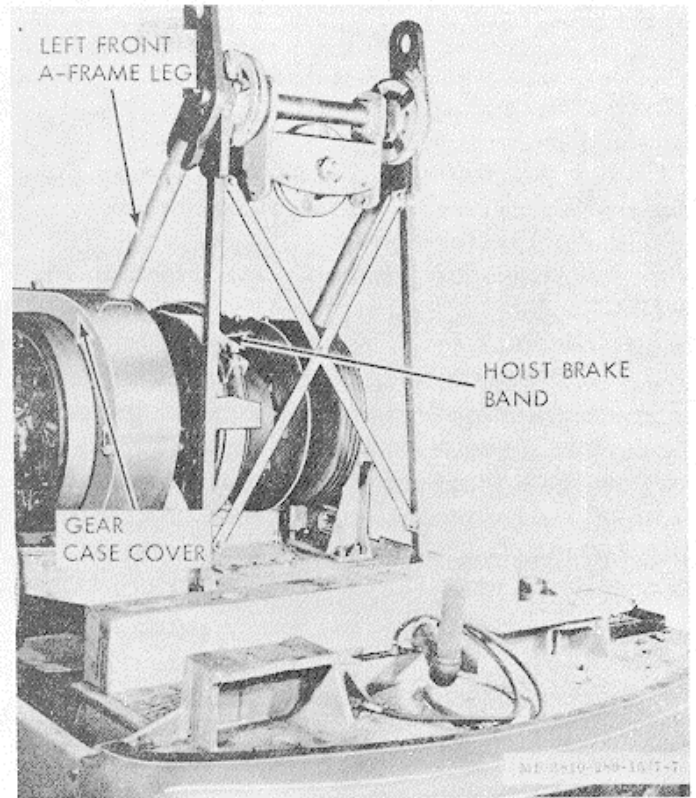

Figure 4-9. Rear drum shaft removal.
- (1) The shaft is alloy steel mounted on ball bearings, with a 4" major diameter. Shaft speed is 37.6 R.P.M. with diesel engine direct drive at full load speed.
- (2) Hoist and swing gears are heat treated steel castings with machine cut teeth. Hoist gear is keyed to the shaft. Swing gear is keyed to the swing clutch housing.
- (3) Swing clutch housing is mounted on ball bearings.
- (4) There is a plain tapered rope drum with integral clutch and brake housing mounted on ball bearings.
- (5) The drum brake is an external contracting band type, 27" diameter; 3" wide and mechanically operated.
- (6) The drum clutch is an internal expanding band type, 24" diameter; 3" wide and mechanically operated.
- (7) The clutch on right side of rear shaft is used to power controlled load lowering of crane hoist line. Housing is grooved on outer surface for cooling. The clutch is mounted on ball bearings.
b. Removal (fig. 4-9 and 4-10).
- (1) Lower boom to rest securely and slacken suspension ropes.
- (2) Remove hoist rope from drum.
- (4) Remove retract clutch guard.
- (5) Remove hoist brake band. (fig. 4-9.)